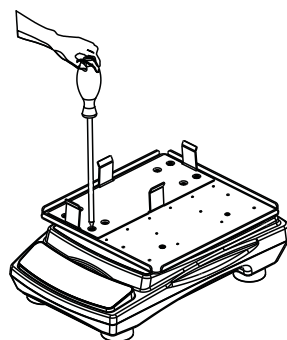

figure 3
3. Vertically clip the test tube rack into the holder and make sure there is no gap between the rack and the holder (figure 3).